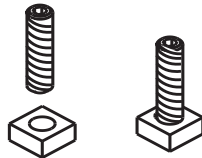

Figure 20.1
1. Thread Allen bolts through nuts until flush (**Figure 20.1**). The Allen bolts and nuts are included in the component pack inside the appliance firebox.